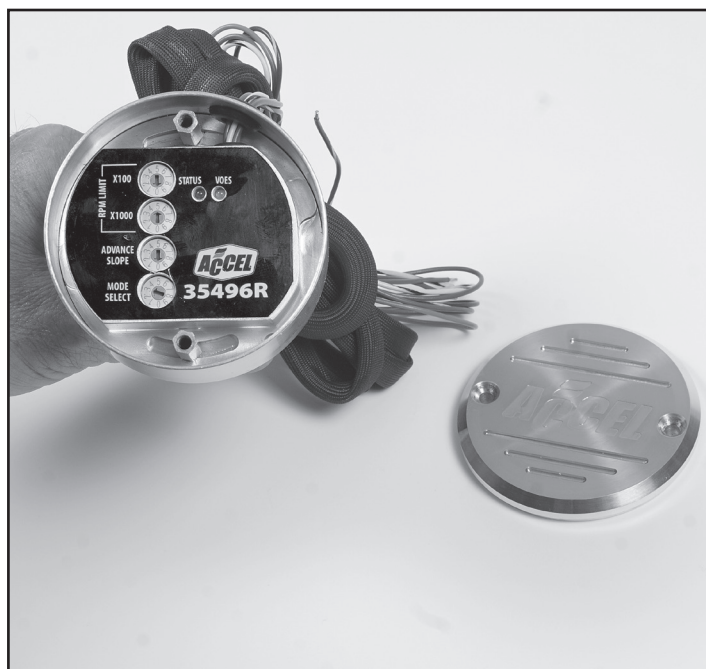

Figure 1
4. Remove the two hex-head screws and the top cover from the new ACCEL A577 distributor. Remove the two hex standoffs and remove the module and upper housing from the distributor base assembly. (Figures 1 & 2)
7. Reinstall the upper housing and module assembly onto the distributor base assembly as shown in figure 1. Note: the upper housing will only install one way due to the locating screw. Rotate the base assembly slightly if necessary so that the opening in the shutter wheel lines up with the slot in the upper housing (Figure 4).
9. Set rotary switches according to the separate "Operating Figure 1 Modes" instruction below.
OPERATING FIGURE 1 MODES